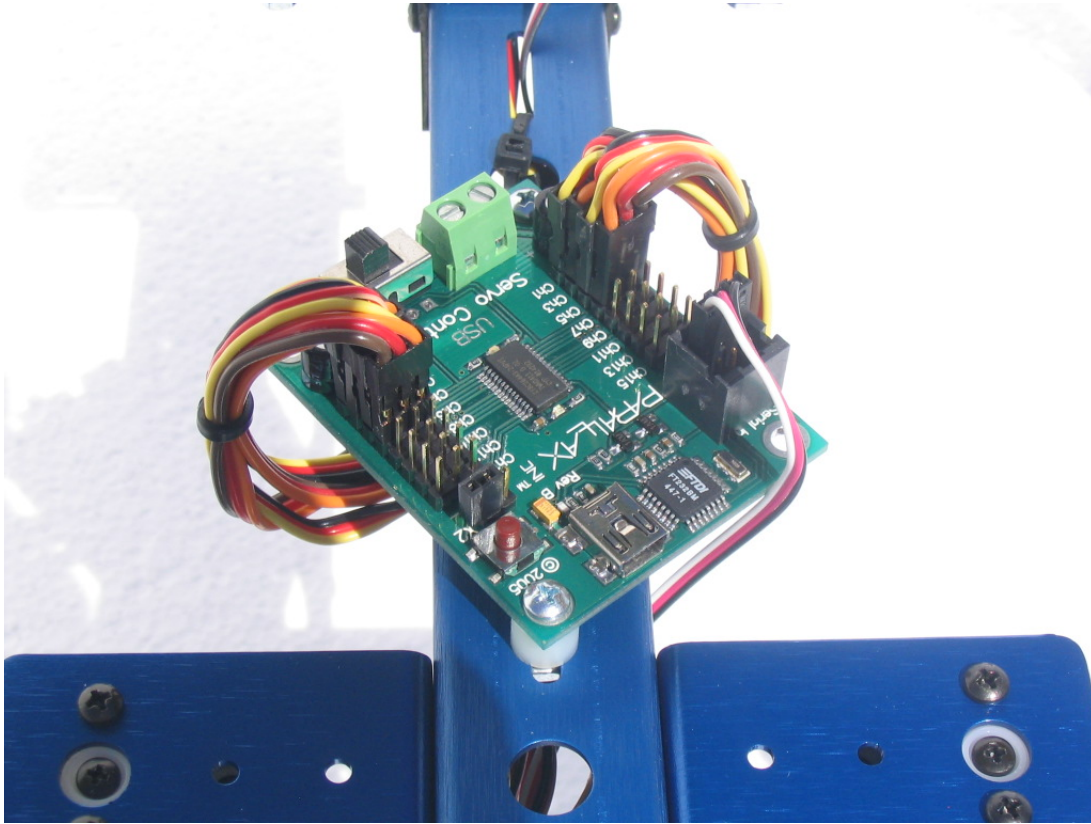

Figure 23 – QuadRod PSC installation
- For the QuadRod, use the slots located just behind the front legs or the slots located in front of the Parallax BOE (figure 23).